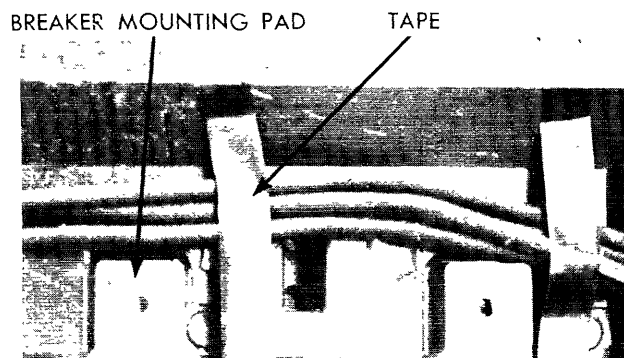

Fig. 6. View, back of breaker
6. Insert the leads through the knockout and position them, as shown in Fig. 6, with tape to ensure that leads will not be pinched under the breaker mounting pads during installation. Check the leads at the undervoltage release device to be sure they do not interfere with any moving parts.